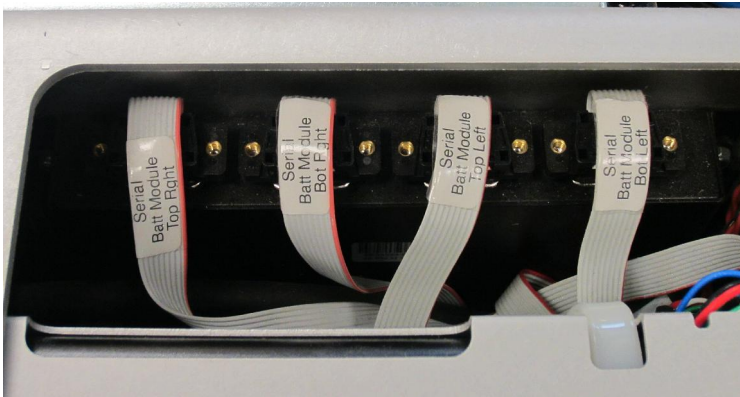

Fig. 8
5. Unplug the serial cable that corresponds to the battery module that you are trying to remove. (Fig. 8)